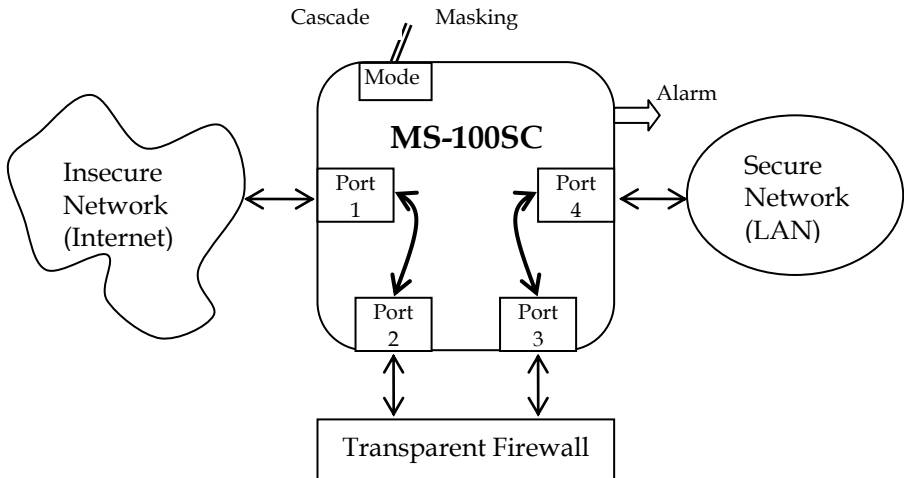

Figure 2 - Mask Mode Configuration
1.	Connect the unit up as in Figure 2 with: <ul style="list-style-type: none"> • The insecure (Internet) connection going to Port 1 of the MS-100SC. • Port 2 connected to the insecure side of the firewall • Port 3 connected to the secure side of the firewall. • Port 4 connected to the protected network.